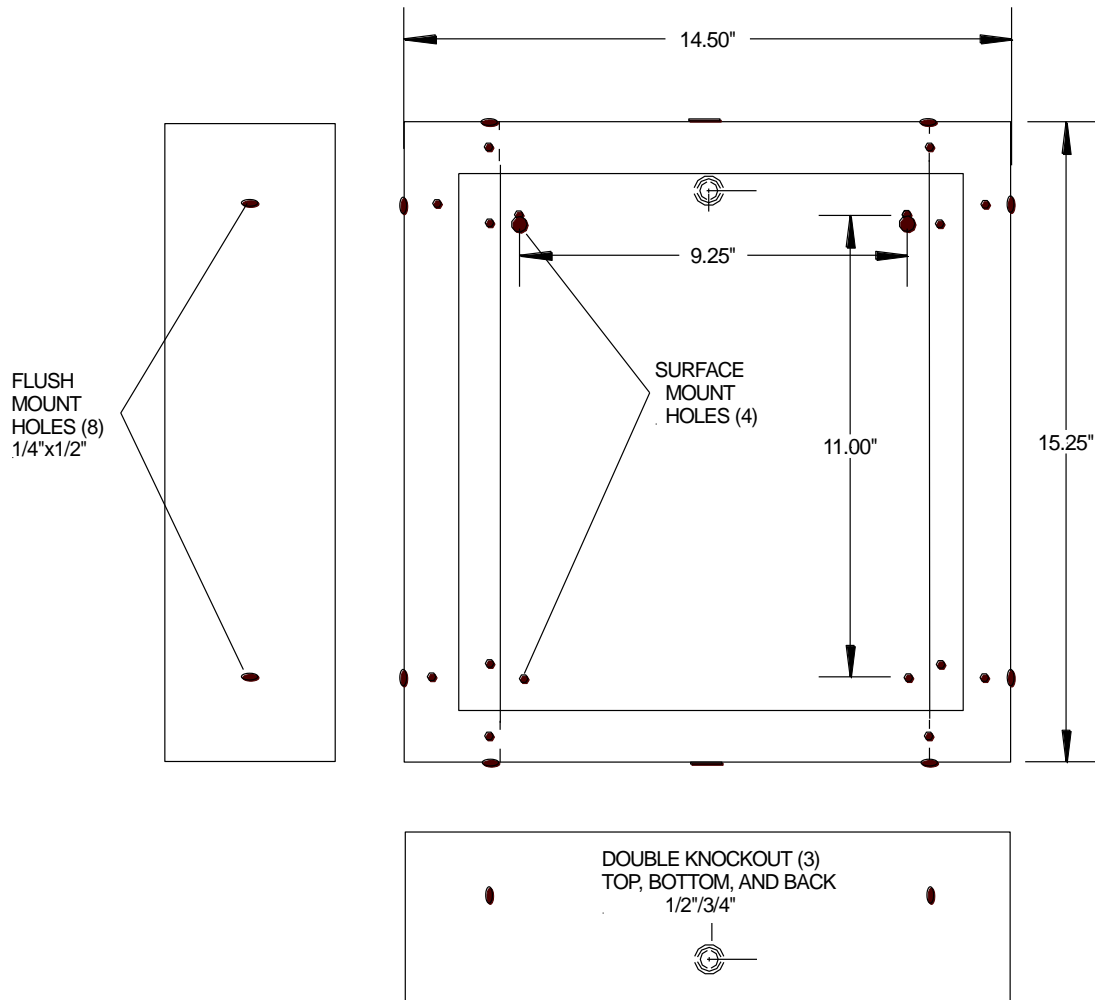

Figure 3: Mounting Holes for Mounting the Backbox, Flush and Surface
3. Mount the backbox assembly. See Figure 3 for mounting holes. Ensure the assembly is properly orientated.